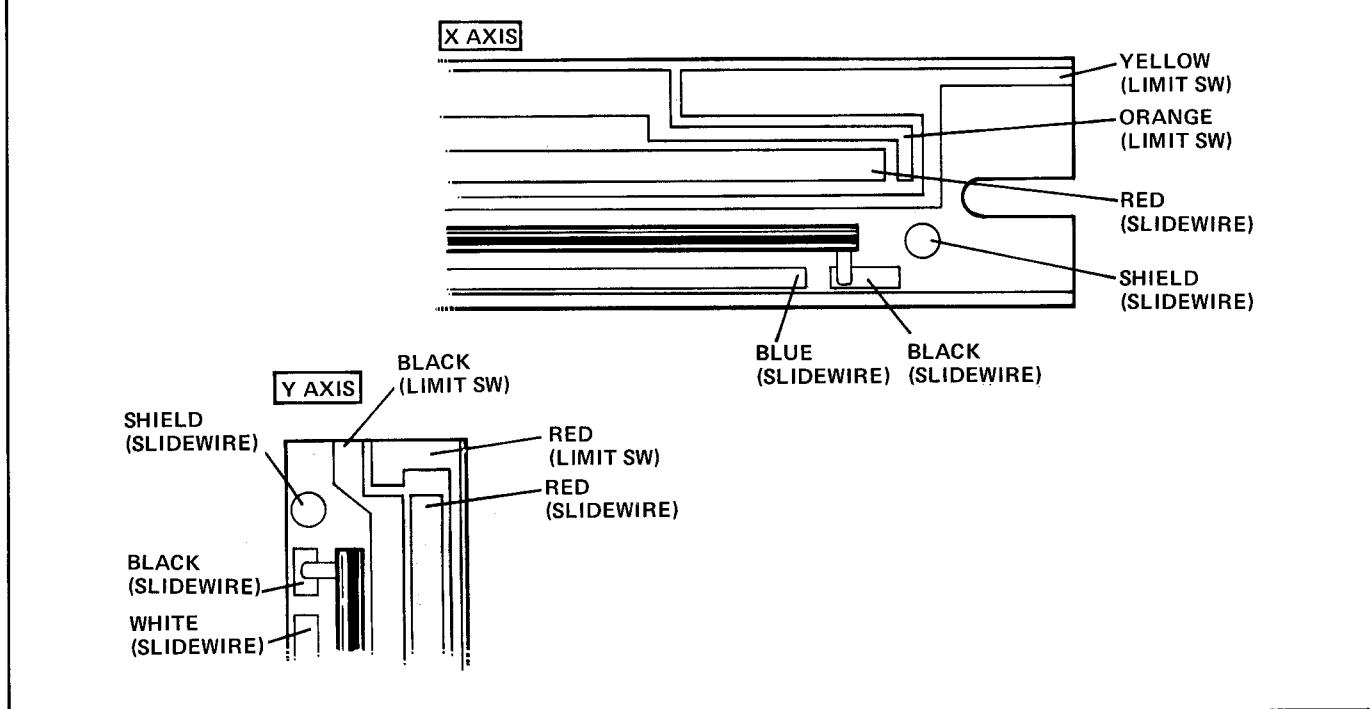

FIGURE 3-8. SLIDEWIRE LEAD CONNECTIONS
- c. Unsolder six wires, noting order in which leads connect to slidewire (see Figure 3-8).
c. Unsolder six wires, noting the order in which leads connect to assembly (see Figure 3-8). Top two wires are for the limit switch, bottom four wires are for the slidewire.